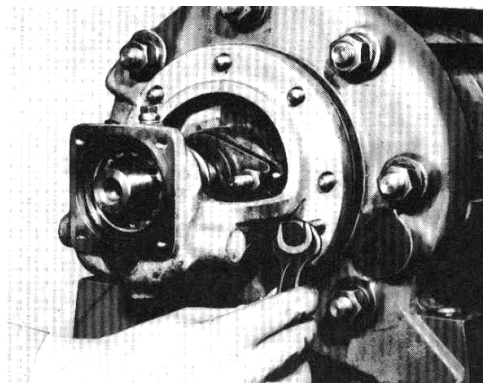

Fig. 53 - Forcing off the bearing housing
7. Unscrew and remove hex, nuts (920.2) from stud bolts (902.1) in the suction casing (106) in order to dismantle the bearing housing and stuffing box housing (see Figs. 53 and 54).